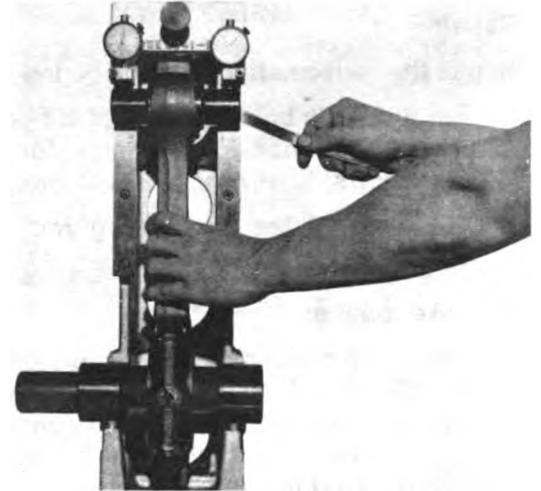

Fig. 1-60 (V40139). Measure The Amount Of Twist In The Connecting Rod.
3. Measure the twist of the connecting rod with a feeler gauge. Put the feeler gauge between the mandrel and the dial indicator holding plate, Fig. 1-60. When the connecting rod does not have a piston pin bushing, the twist must not be more than 0.020 inch [0.51 mm]. When the bushing is installed and machined to the correct size, the twist must not be more than 0.010 inch [0.25 mm].